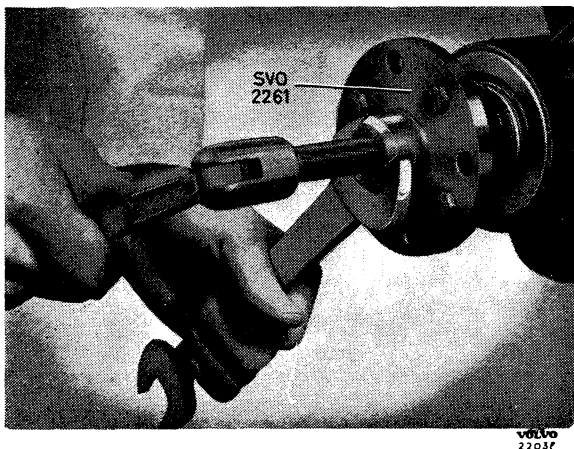
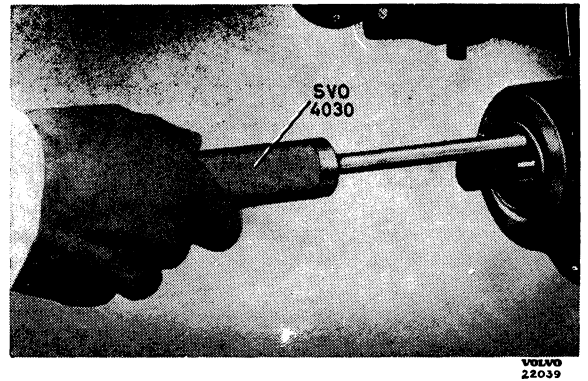

Fig. 4-131. Removing flange
Fig. 4-132. Removing oil seal
2. Remove the nut for the flange. For this purpose, use tool SVO 2837 as a counterhold, see Fig. 4-130. Pull off the flange with puller SVO 2261, see Fig. 4-131. Pull out the old oil seal with puller SVO 4030, see Fig. 4-132.
Use for this purpose tool SVO 2854 as a counterhold. Pull off the flange with puller SVO 2261, see Fig. 4-131. Press out the pinion.